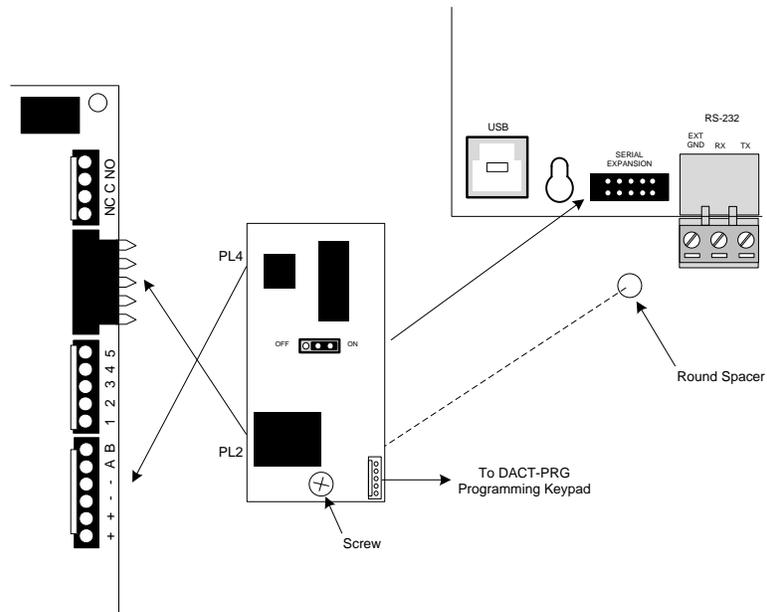

Figure 42 - NX-SEB Installation and Wiring
**Note: All D9068P DACT programming (i.e. communications protocol, primary and secondary phone numbers, etc.) must be done with a DACT-PRG (Bosch – FMR-DACT-KEYPAD) programming LCD and keypad. To program the D9068P the DACT-PRG LCD keypad must be plugged into the NX-SEB serial expansion board (see figure 42).**
The NX-SEB serial expansion board plugs into the 10-pin serial expansion port located on the lower left corner of the NX-FACP base card. Install the round spacer supplied with the NX-SEB serial expansion board onto the threaded standoff of the back box, below the 10-pin serial expansion port located on the bottom left corner of the NX-FACP base card. Plug the serial expansion board into the serial expansion port of the NX-FACP base card and secure with the provided screw (see figure 42).
The NX-SEB comes with two flat ribbon cables (one 6-pin and one 5-pin) these cables are for connecting the NX-SEB to the D9068P DACT. Connect one end of the 6-pin flat ribbon cable to PL4 of the NX-SEB (located on the back side of the NX-SEB). Connect the 5-pin flat ribbon cable to PL2 of the NX-SEB (located on the back side of the NX-SEB) of the NX-SEB (see figure 42).
Plug the 6-pin flat ribbon cable previously installed on the NX-SEB (PL4) into the RS-232/power input connection located on the D9068P. Plug the 5-pin flat ribbon cable previously installed on the NX-SEB (PL2) into the DACT-PRG keypad input connection located on the D9068P (see figure 42).